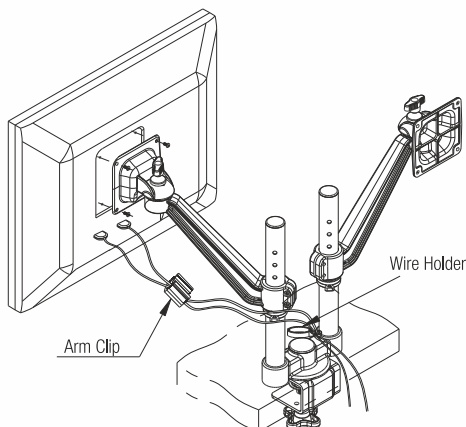

Fig. 5
5. Screw the flat screen to the hanging bracket with M4 screws provided as shown in Fig. 5.